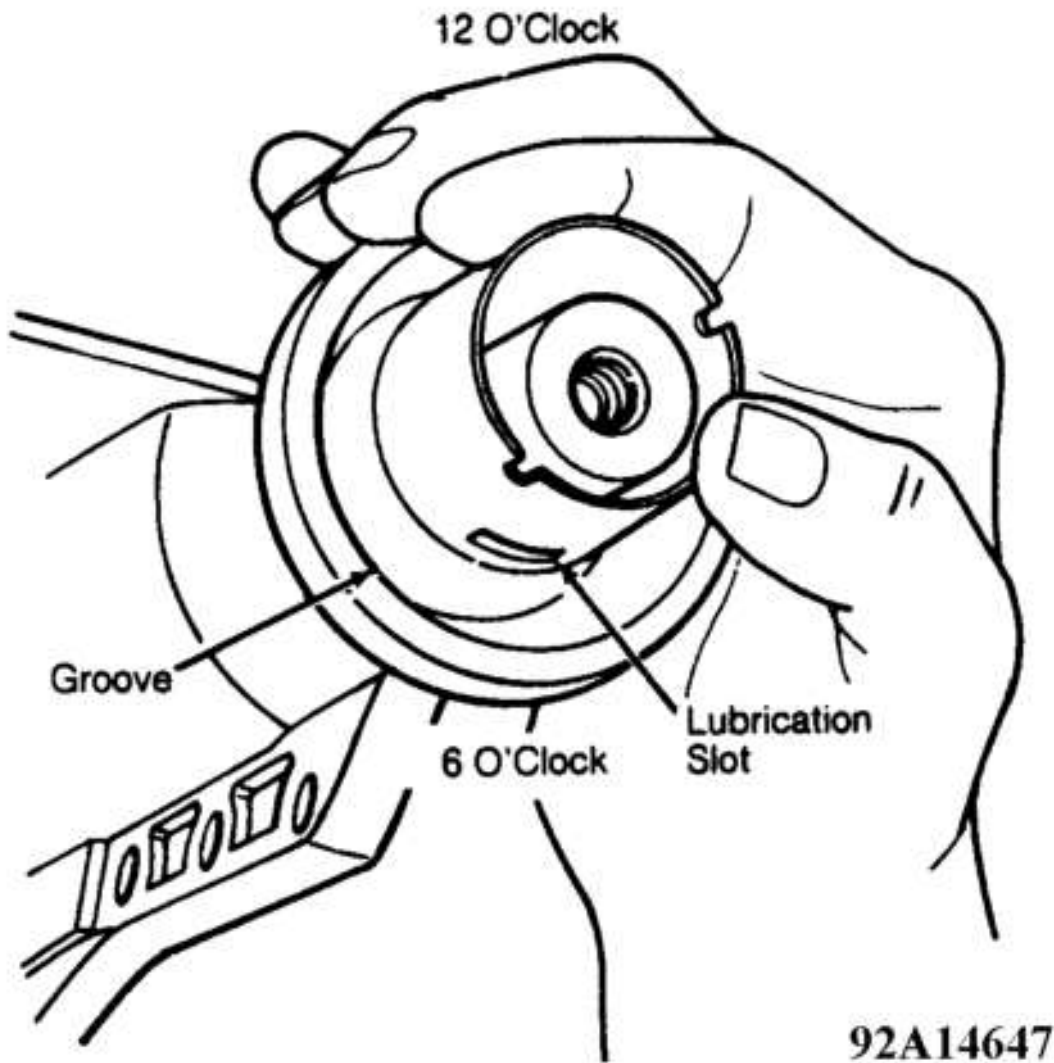

Fig. 2: Installing Extension Housing Bushing
1. Inspect extension housing bushing bore for burrs and remove burrs with an oil stone, as necessary. Install extension housing bushing, aligning lubrication slot to 6 o'clock position. See **Fig. 2**.